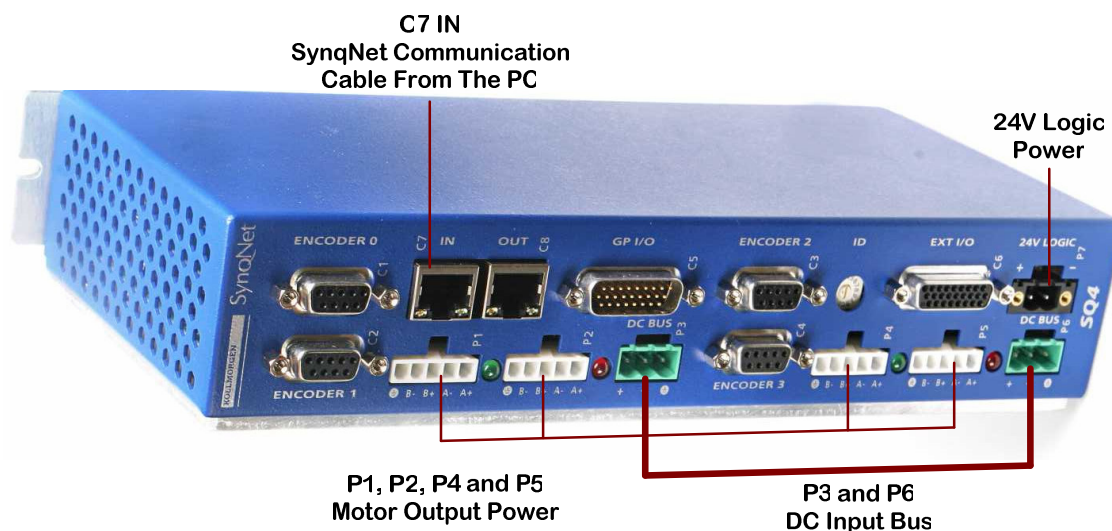

Figure 1: Front Cable Connection Panel
2. Use Figure 1 and the two tables below to connect the cables.